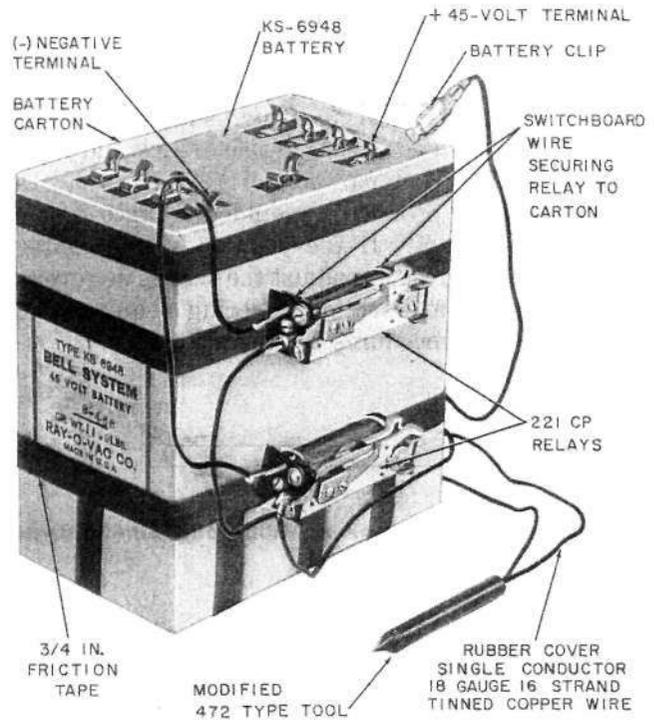
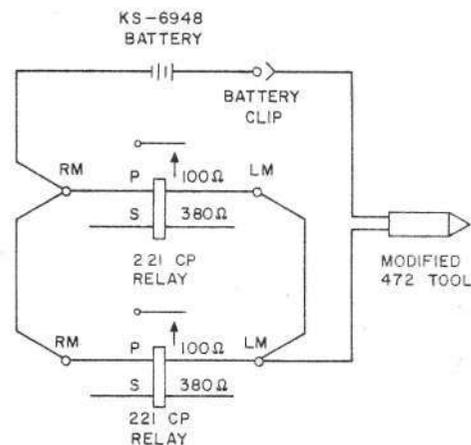

Fig. 21—Equipment for Arc Method of Cleaning VON Contacts 3—4 on Digit-Absorbing Selector, SD-32183-01
Fig. 22—Wiring Diagram for Arcing Equipment Shown in Fig. 21
4.25 *Arcing Equipment Required:* The equipment shown in Fig. 21 is required for the arc cleaning method and should be prepared locally. This equipment is wired as shown in Fig. 22 and provides means of producing an arc across the VON contacts when the contacts are broken. Referring to Fig. 21 and 22, two 221CP relays are connected in parallel between a KS-6948 battery and a modified 427-type tool. The modified tool is used to connect the arcing circuit across the VON contacts at the test jack of the switch. This equipment may be prepared as follows:
(a) In order to make the arcing equipment a convenient self-contained unit, a KS-6948 battery carton may be used to mount the relays as shown in Fig. 21. To prepare the carton for this purpose, remove the four cover flaps and reinforce the sides and bottom of the carton with friction tape as shown in the figure. Punch holes in one side of the carton just above two of the strips of tape and secure the relays to the carton by switchboard wire passed through the holes as shown in the figure.
(c) Wire the arcing equipment as follows: Skin two 13-foot lengths of No. 18 rubber-covered wire approximately 3/8 inch from each end. Solder one end of each lead to a terminal of the tool tip. Pass both leads through the shell of the tool and screw the shell on the tip. Using the No. 18 wire, wire the equipment as shown in Fig. 22 connecting a battery clip to one of the 13-foot leads from the modified tool.